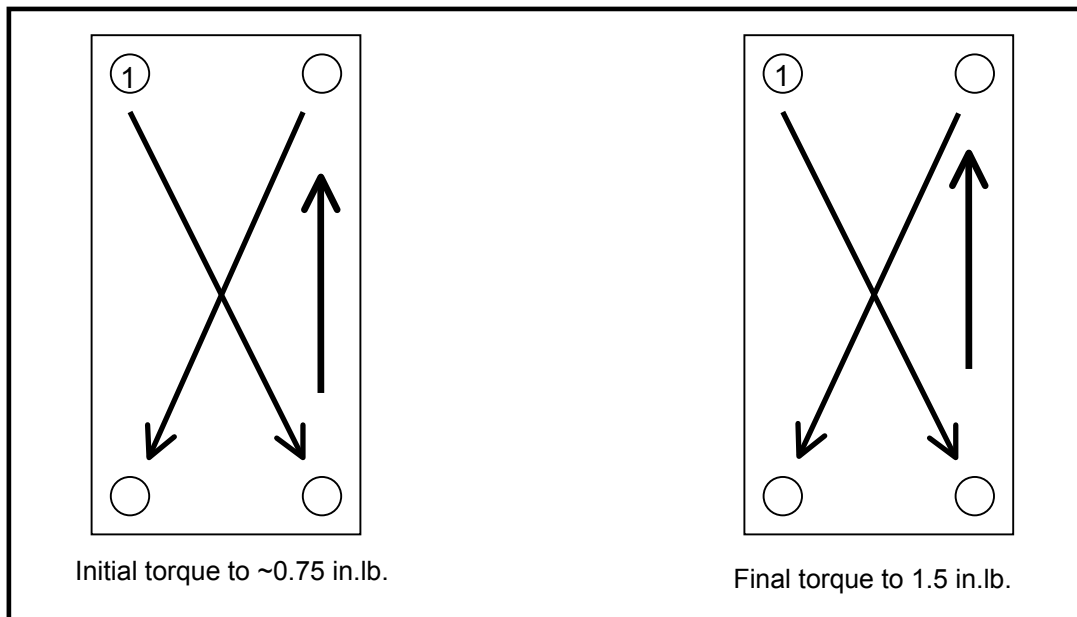

Figure 2: Bolting Pattern and Torque Specifications for Mounting a Butterfly Module
- Follow a X-style bolt pattern when mounting the pump module (refer to Figure 2 below).